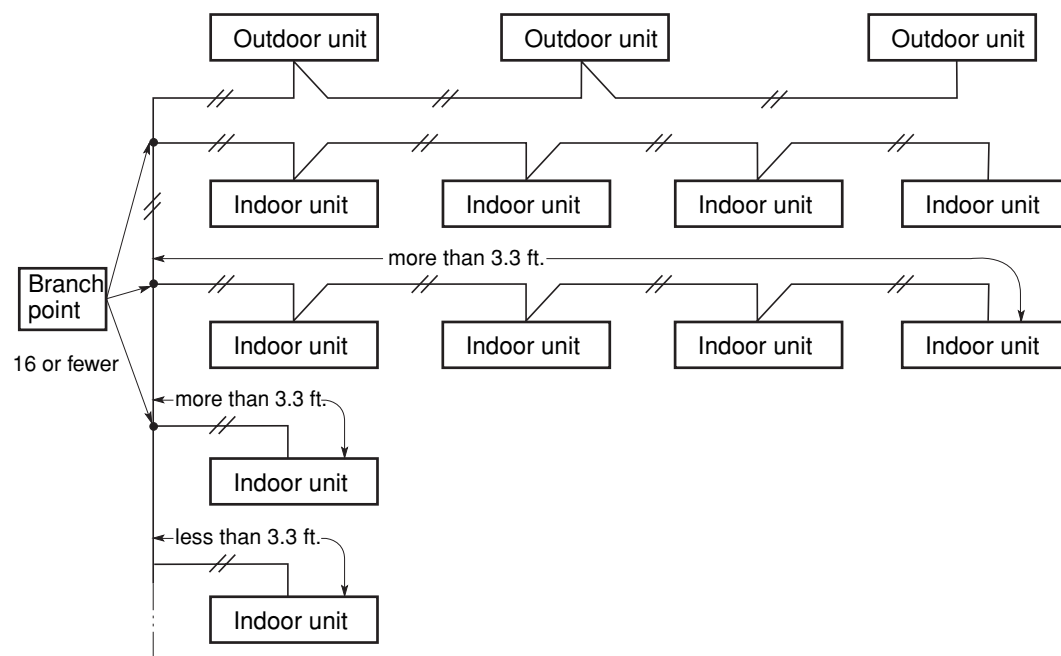

Fig. 5-3
- (4) If branching the inter-unit control wiring, the number of branch points should be 16 or fewer. (Branches less than 3.3 ft. are not included in the total branch number.) (Fig. 5-3)